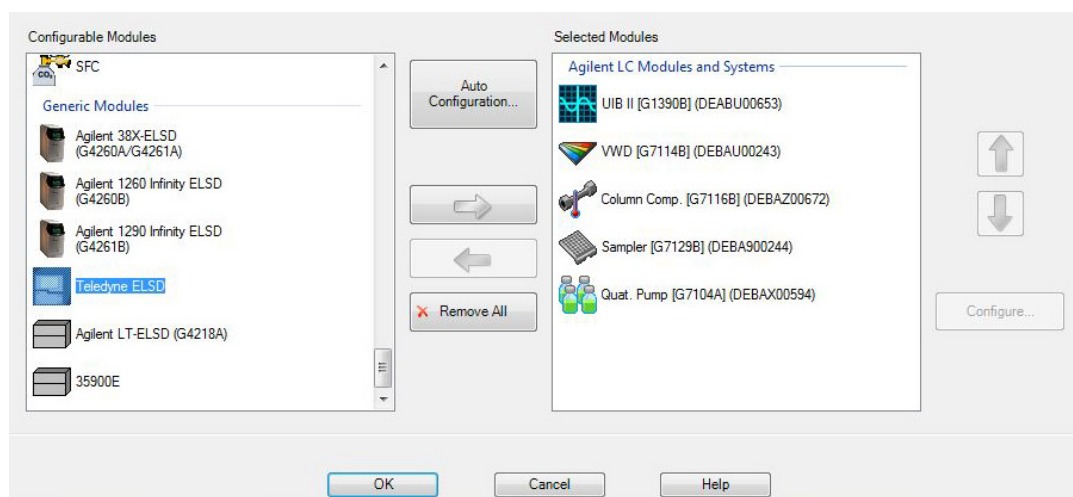

Figure 5: Instrument Configuration screen
1. Open the Agilent software and select menu item **Instrument** and choose **Instrument Configuration** (Figure 5).
2. Choose the Teledyne Isco ELSD icon under the **Configurable Modules** list, and click the arrow pointing to the right to move it into the **Selected Modules** list on the right (Figure 5).
3. Click the Teledyne Isco ELSD icon that is now in the **Selected Modules**, and click the **Configure...** button to bring up the ELSD driver configuration (Figure 5).